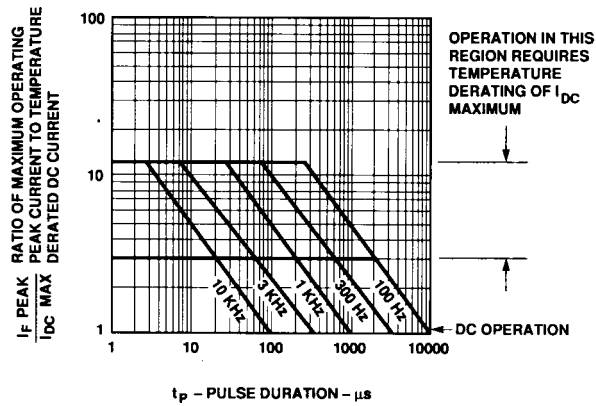

Figure 8. Maximum Tolerable Peak Current vs. Pulse Duration - Green.
- See Figure 8 to establish pulsed conditions.